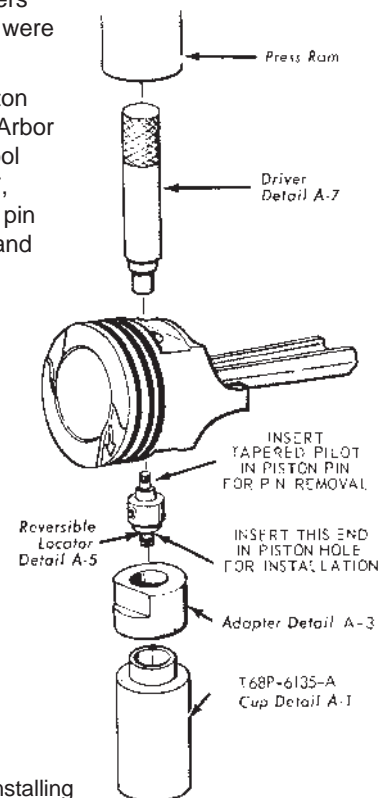

Fig. 47 Removing or Installing Piston Pin
3. Remove the piston rings. Using an Arbor Press and the tool shown in Fig. 47, press the piston pin from the piston and connecting rod.
2. Start the piston pin in the piston and connecting rod (this may require a very light tap with a mallet). Using an Arbor Press, press the piston pin through the piston and connecting rod until the pin is centered in the piston (Fig. 47).